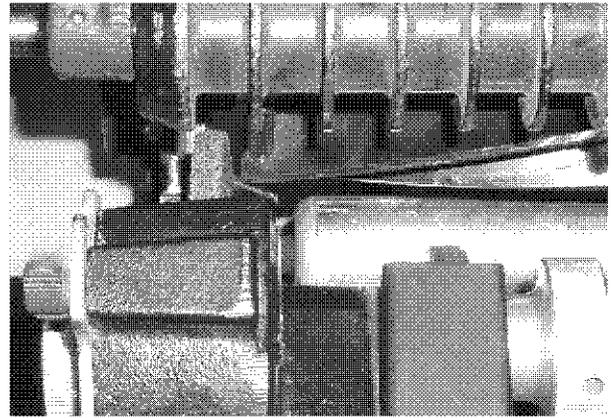
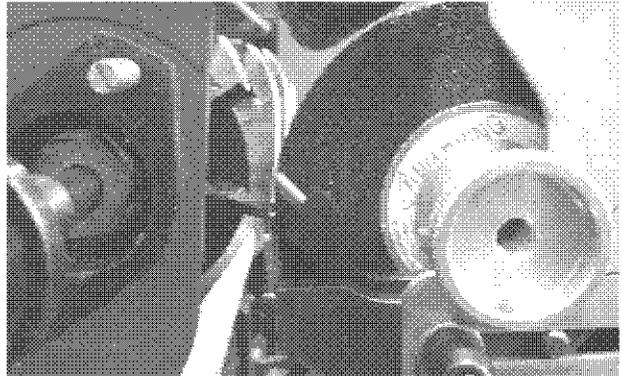
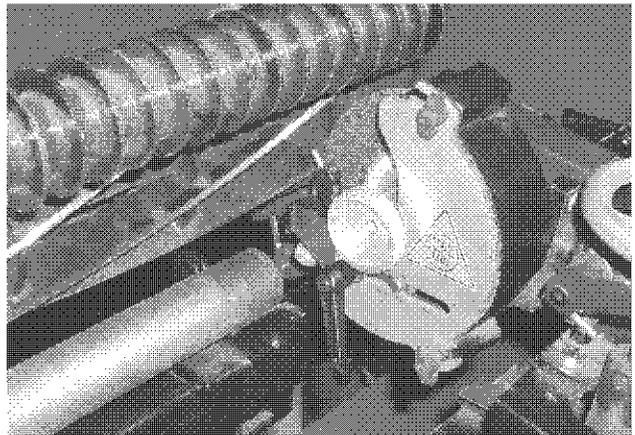

FIG. 69
FIG. 70
FIG. 71
- C. Reset the Traverse Limit Proximity Switch so the grinding wheel clears the reel at both ends by approximately 1/16" (1.5 mm) or the reel blade comes off the relief finger on the right side. See FIG. 69 - 72.
By looking down the reel from the operator's position you can see the reel blade and its relative position to the grinding wheel. See FIG. 70. By raising the grinding wheel you will decrease the relief angle and conversely by lowering the grinding wheel you will increase the relief angle. Traverse the grinding wheel assembly to the right side of the reel. Retighten all three (3) lock handles.
M. Jog the traverse all the way to the left prox switch watching for proper clearance between the grinding wheel and the blade. When the grinding head reaches the left prox, the index finger should pop forward. See FIG. 70. The grinding wheel should come off from the reel blade, but the reel blade should remain on the fixed relief finger. See FIG. 69 Check for proper clearance between the index finger and the front side of the blade on the return trip to the home position. See FIG. 71.